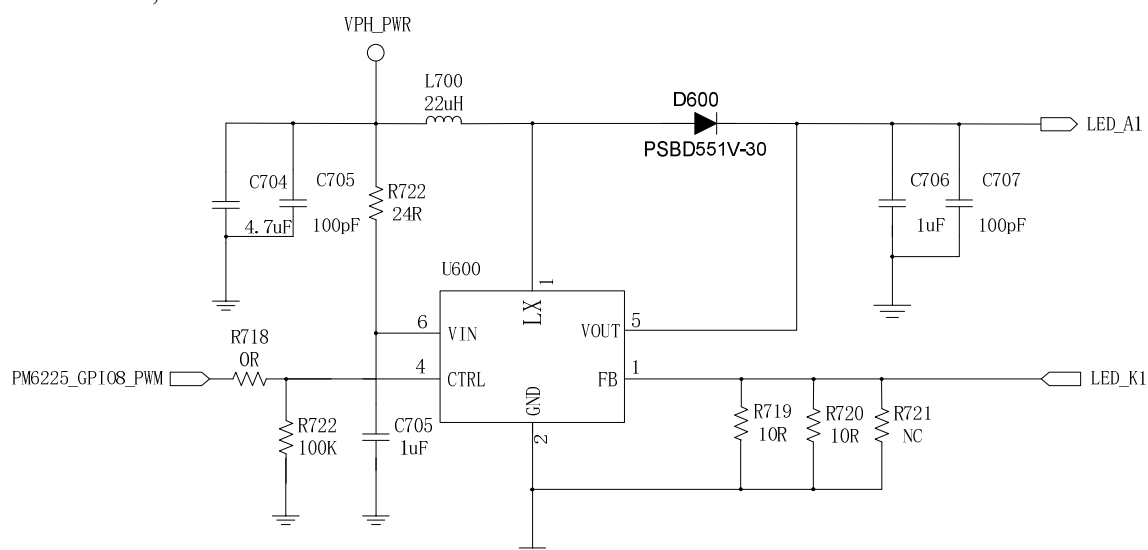

FIG. 4.15: External backlight circuit diagram
SLM927 does not support backlight driver output, customers need to use an external backlight driver. The backlight driver circuit can be referred to Figure 4.15. The brightness of backlight can be adjusted through PWM/PM6225\_GPIO8 (44) of the module, and the modulation mode is PWM mode.